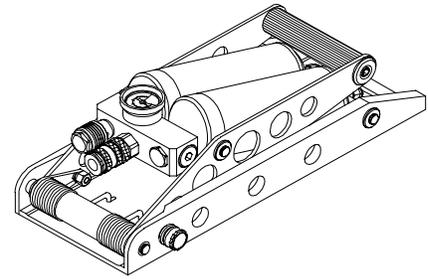

Figure 1-18. Manual Compressor
d. **Manual Compressor** - Part Number 22-800400 (Figure 1-18). The two cylinder, 49 cubic inch (800 cubic centimeter) manual compressor provides a source of compressed air to extend the strut(s). Incorporated on the compressor is a spring loaded foot pedal, a quick disconnect fitting and a sliding, two-stage valve collar to isolate one cylinder thereby increasing delivered pressure and decreasing delivered volume by a factor of 2.